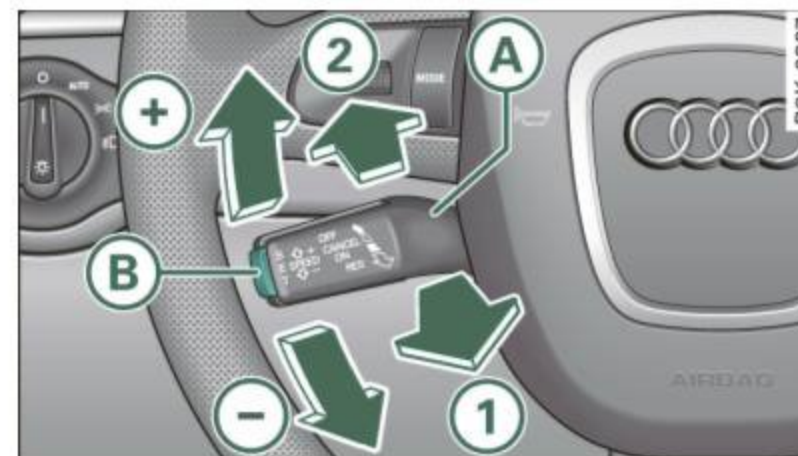

Fig. 121 Control lever with push-button
- Pull the lever **A** to position **1** ⇒ fig. 121 to switch the system on.
- Press the lever **A** in the direction of the **+** ⇒ *page 116*, fig. 121 or in the direction of the **-** to increase or decrease your speed.
- Pull lever **A** into position 1 ⇒ *page 116*, fig. 121.
- Press the lever ① into position ② (not clicked into place) ⇒ *page 116*, fig. 121, or